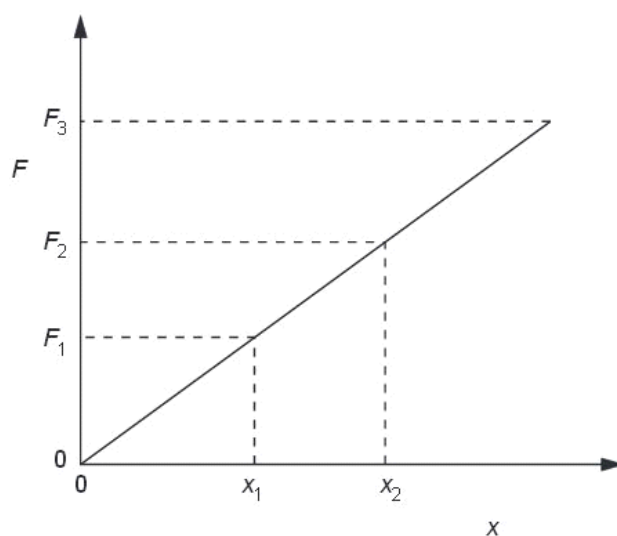

Fig. 5.1
- 5 Fig.5.1 shows the variation with force F of the extension x of a spring as the force is increased to F_3 and then decreased to zero.